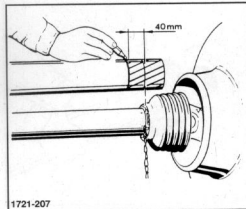

Figure 11
- To do this, hold both halves of the universal drive shaft together in the shortest operating position and mark them (Figure 11).